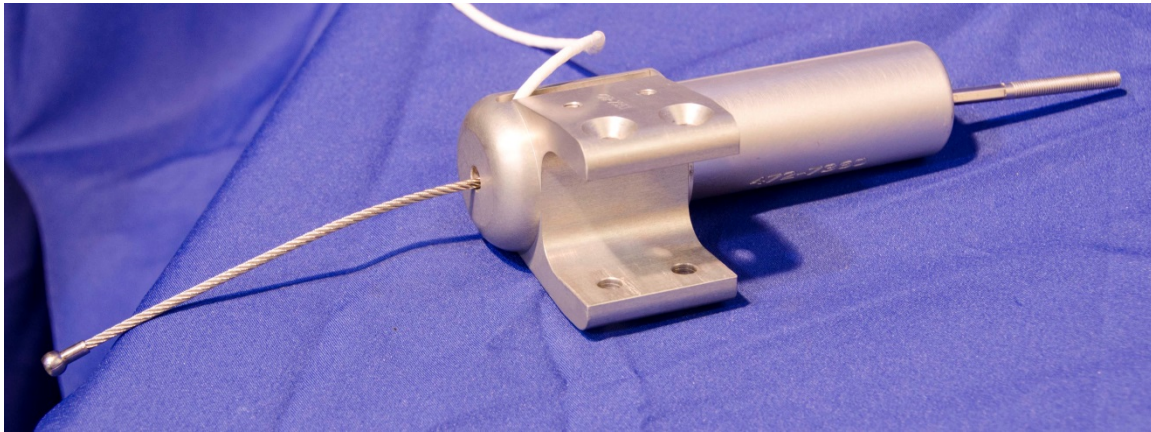

Figure 12-28. Insert Achilles cable into spring tube assembly
- 12.2.2.14 Pass the threaded end of the Achilles Cable (T1LLM319) up through the spring tube assembly from the bottom side, as shown in Figure 12-28.